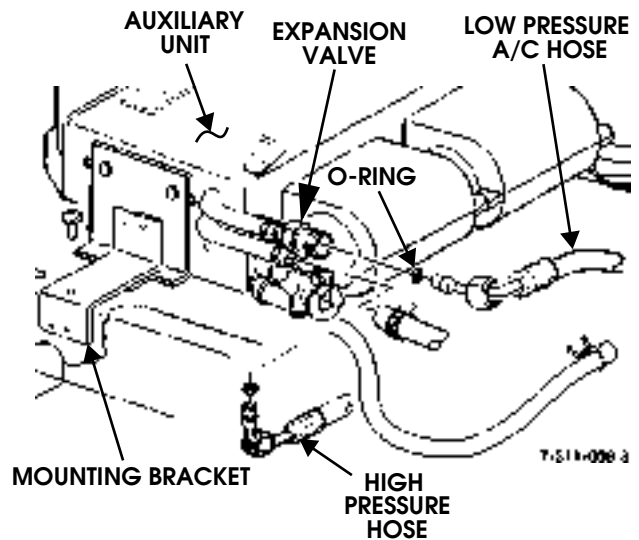

Figure 11-91: Auxiliary High-Pressure Hose Connection, Rear
6. Using two wrenches for equalized support, remove auxiliary high pressure hose from auxiliary expansion valve. Remove and discard O-ring (Figure 11-91).
2. Lubricate and position O-ring on high pressure hose and hand thread hose fitting onto expansion valve. Using two wrenches for equalized support, tighten to 11-13 lb-ft (15-18 N•m) (Figure 11-91).
6. Remove prestite tape from low-pressure hose. Using two wrenches for equalized support, remove hose from auxiliary unit. Remove and discard O-ring (Figure 11-91).
2. Lubricate and position O-ring on hose and secure to auxiliary unit. Using two wrenches for equalized support, tighten to 21-27 lb-ft (29-37 N•m) (Figure 11-91).